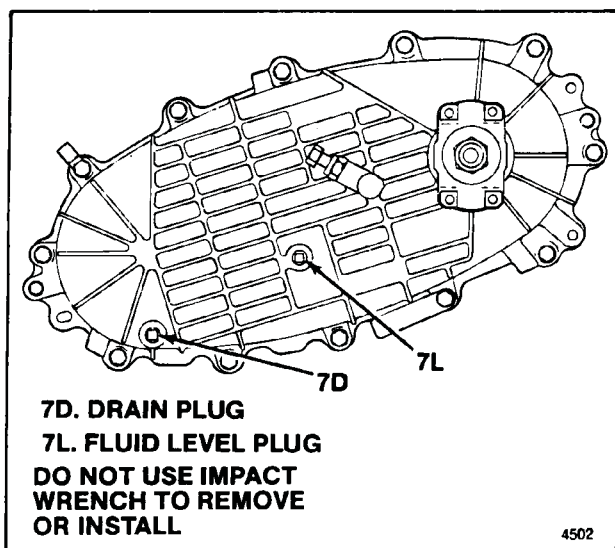

Figure 2-1. Drain and Fluid Level Plugs
- a. Wipe fluid level plug (see figure 2-1) and surrounding area clean.
- a. Wipe fluid level and drain plugs (see figure 2-1) and surrounding areas clean.
- e. Place drain pan under transfer case and remove transfer case drain and fluid level plugs (see figure 2-1). Drain all fluid from transfer case and re-install plugs.
- f. Disconnect wiring from 4WD switch on transfer case cover (16).
- g. Disconnect shift linkage from transfer case shift lever (47).
- h. Disconnect speedometer cable from transfer case cover (16).
- i. Disconnect breather hose from breather barb (85) on transfer case.
- j. Disconnect front driveshaft from transfer case front output yoke (83).
- k. Disconnect rear driveshaft from transfer case rear output yoke (4).